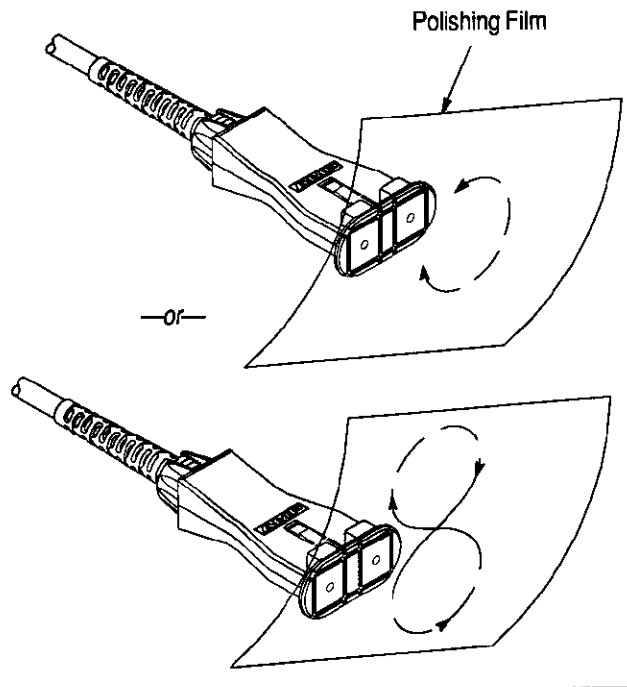

Figure 15
2. Cut a small piece (50x50 mm [2x2 in.]) of 5- $\mu$ m polishing film. While holding the film in the air, form a concave shape, and air polish the connector tips by gently rubbing the tips of the connector in small circles or figure-8 motions until the protruding stub of the cleaved fibers is smooth. See Figure 15.
- Added Step 2 in Paragraph 4.2 and added new Figure 15.